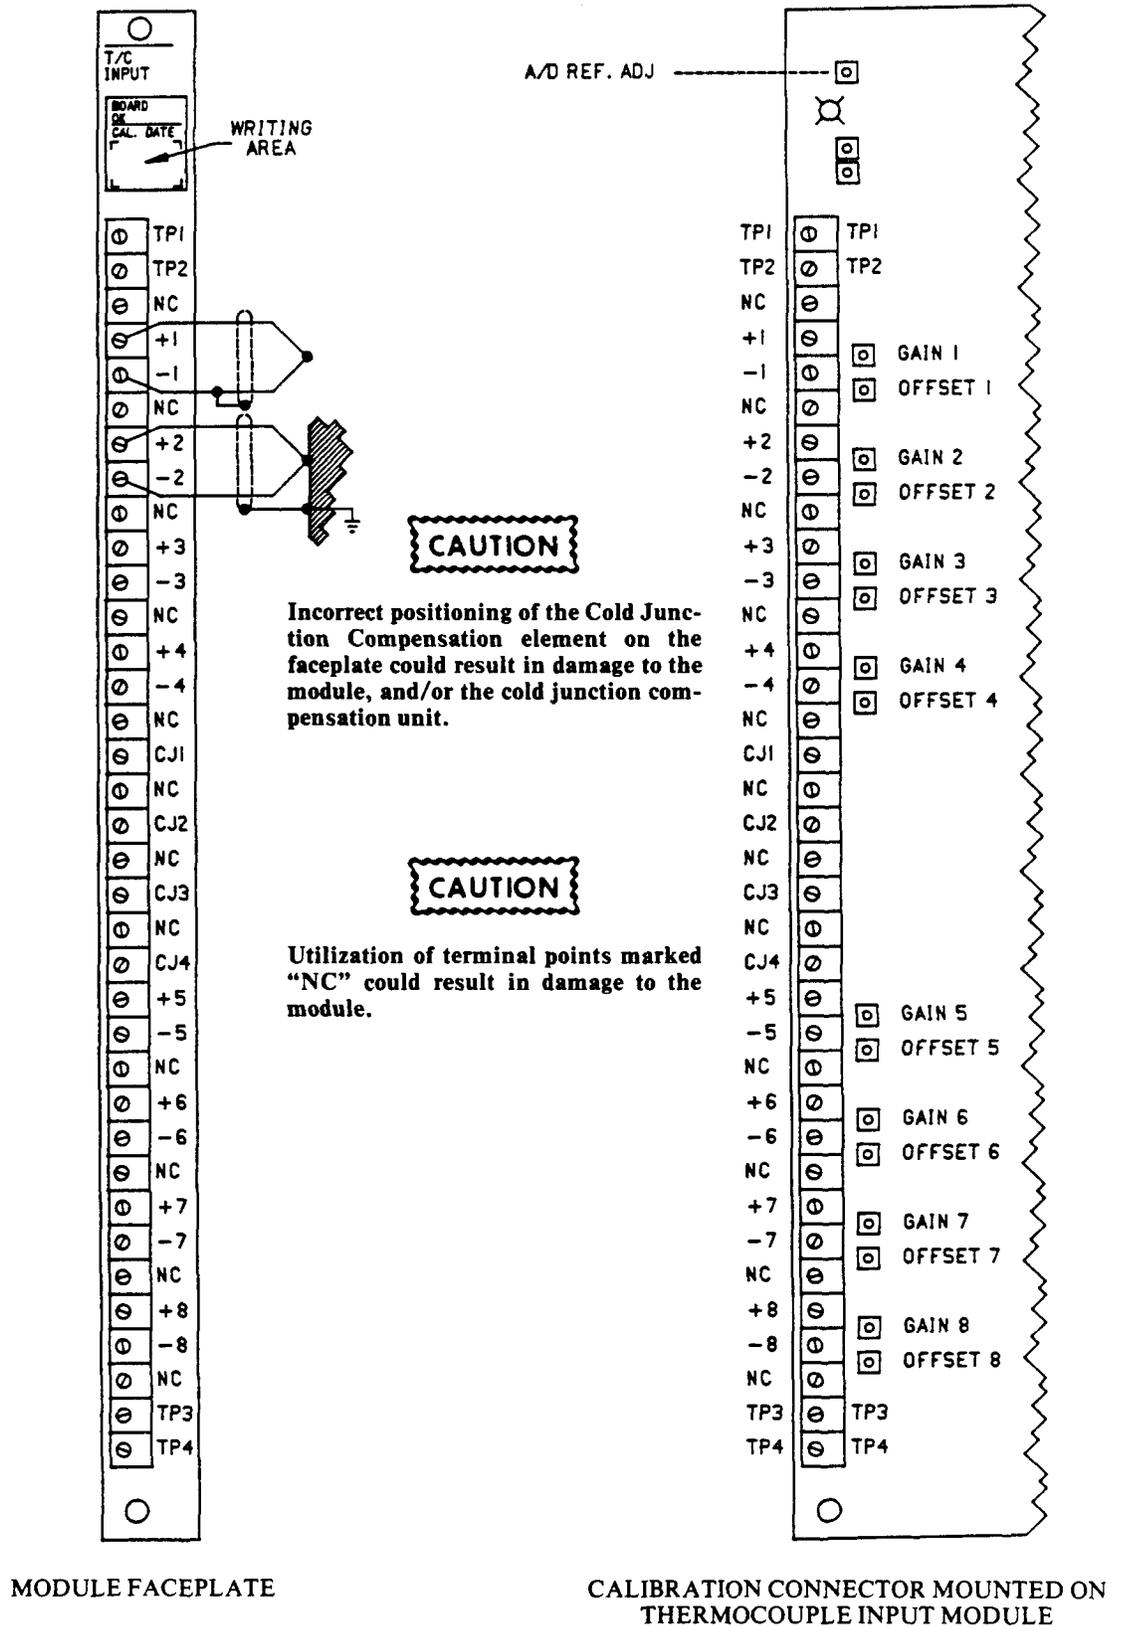

FIGURE 4. USER CONNECTIONS
Refer to Figure 4 (next page, left side) for typical user input connections. The connections to channel 1 (+1, -1) indicate a floating thermocouple; the connections to channel 2 (+2, -2) indicate a grounded thermocouple. Either connection can be used on any of the eight channels. Shielded wire may not be required for short distances. CJ1 through CJ4 are terminals for the Cold Junction Compensation Element. Table 2 (below) provides ANSI standard color codes and thermocouple polarities.
2. A/D Reference trim, (Refer to Figure 4, right side.) Place the (+) lead of the voltmeter on TP2 and the (-) lead on TP3. Adjust the A/D reference potentiometer to obtain a voltmeter reading of 2.048 volts.
3. Offset trim. In Figure 4, the offset adjustment potentiometers for channels 1 to 8 are labeled Offset 1 to Offset 8, respectively.
Gain trim. In Figure 4, the gain adjustment potentiometers for channels 1 to 8 are labeled Gain 1 to Gain 8, respectively.